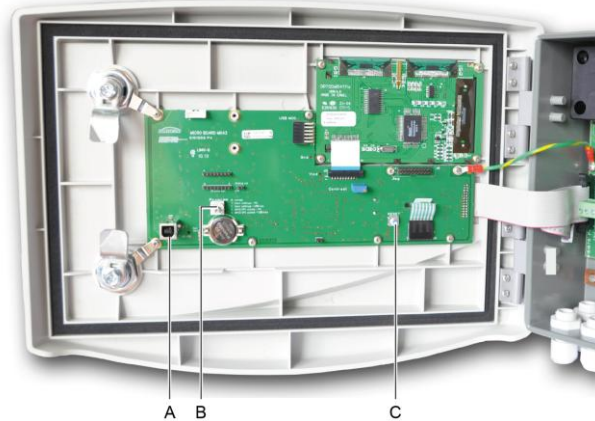

Figure 44: The elements used to connect an MX43 and a PC
1. Connect the PC to the programming port of the *MX43* (Figure 44, A) using a USB cable.
2. Move the programming selector (Figure 44, B) to position "1".
3. Press the *Reset* button (Figure 44, C) on the microcontroller. The *MX43* switches to standby. The configuration file can now be transferred to the *MX43*.
1. Return the selector (Figure 44, B) to position "0".
2. Remove the USB cable between the PC and the MX43 (Figure 44, A).
1. Connect the PC to the programming port of the MX43 (Figure 44, A) using a USB cable.
2. Move the MX43 selector to position "1" (Figure 44, B).
3. Press the *Reset* button (Figure 44, C) on the microcontroller. The MX43 switches to standby. The configuration file can now be transferred to the PC.
1. Return the selector to position "0" (Figure 44, B).